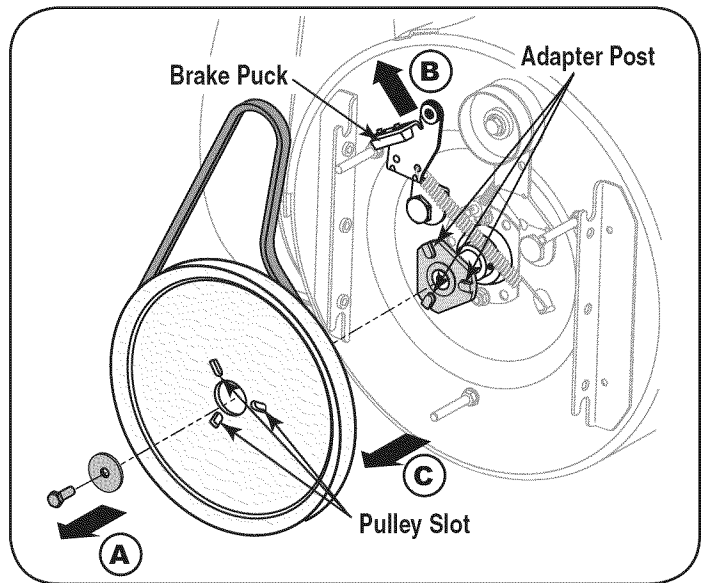

Figure 32
6. Block the impeller with a piece of wood to prevent it from spinning and use a 1/2" wrench to remove the hex screw and flat washer from the center of the pulley on the auger housing. See A in Fig. 32.
7. Lift the brake bracket assembly out of the pulley groove (B in Figure 32) and slide the pulley assembly off the posts of the auger pulley adapter (C) to remove the old belt.
9. Turn the pulley as necessary to align its three slots approximately with the posts of the pulley adapter, then move the brake bracket assembly away from the input shaft. While aligning the pulley slots and adapter posts, push the auger pulley fully onto the adapter. Refer to Figure 32.
NOTE: If the pulley adapter was removed with the pulley, align the splines of the pulley adapter and auger input shaft, and push the pulley and adapter onto the input shaft. Refer to Figure 32.